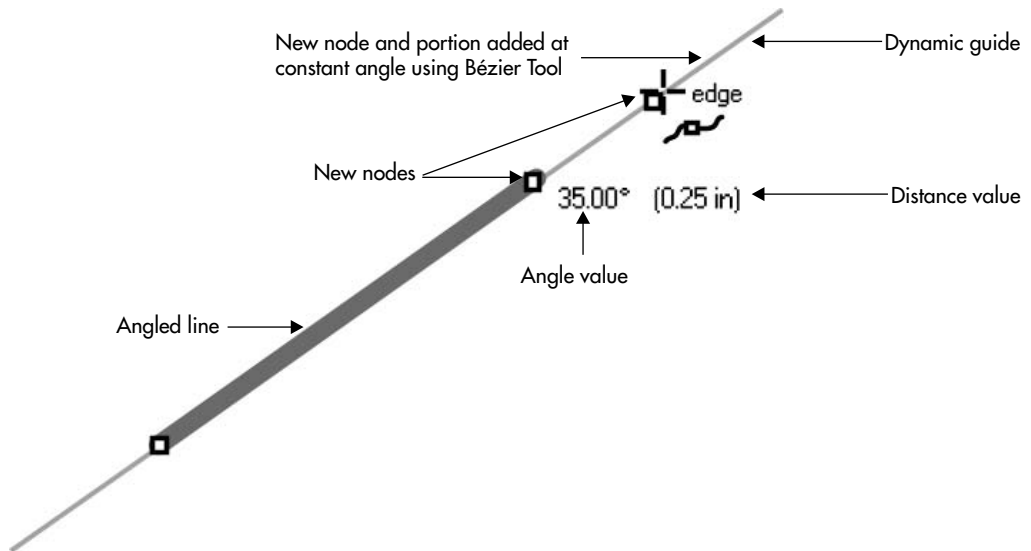

FIGURE 6-13
- **Extend Along Segment** Choose this to display a guide at the same angle as straight line segments. This option is useful for Bézier and freehand drawing because this makes it easy for you to add new portions to straight lines at a constant angle (as shown in Figure 6-13).
Figure 6-13 shows a logo nearing completion by setting up dynamic guides at 45° increments. Using the Pen Tool, the dynamic guides (set to snapping) show exactly when the tool has reached a 45° angle as well as a 90° angle. Try this feature for yourself; this illustration was accomplished using 25 clicks—precision has seldom been achieved so easily.